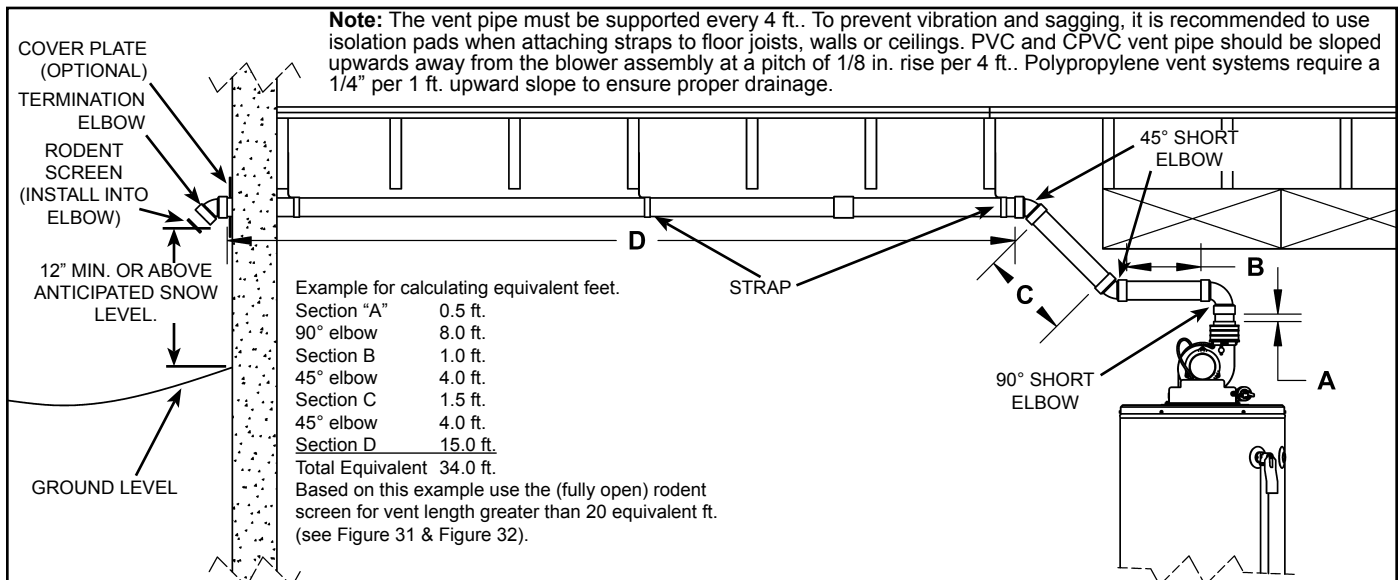
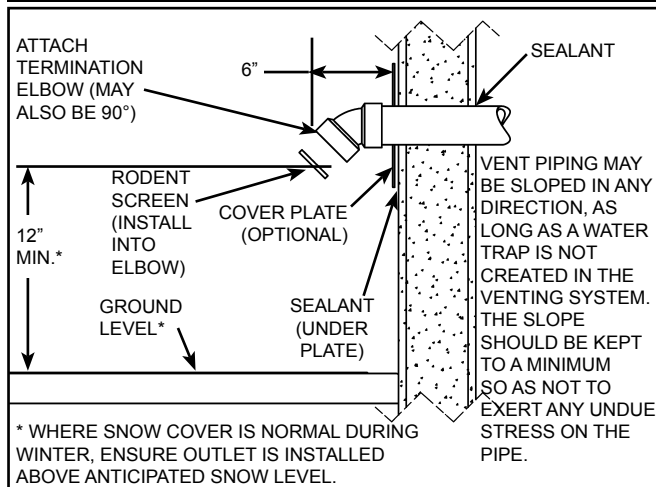
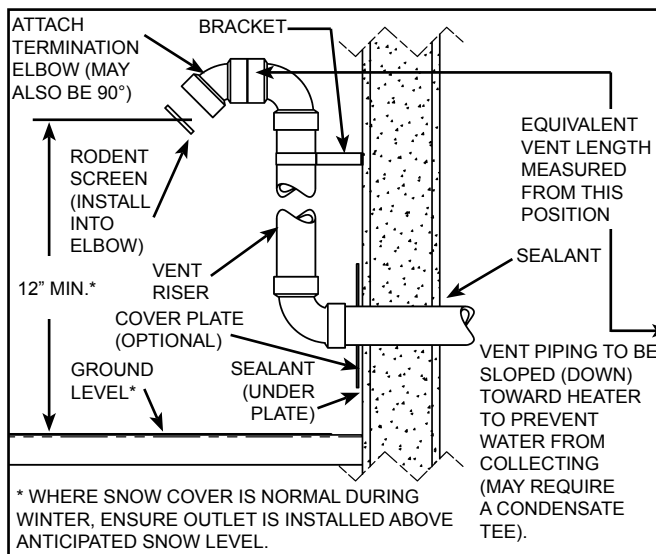
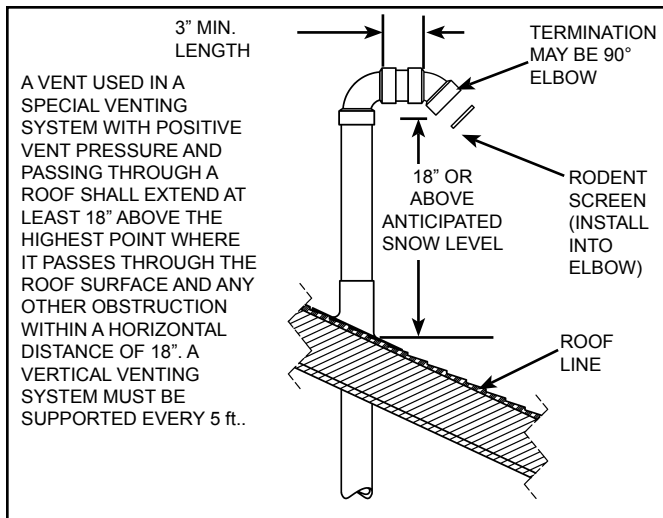

Figure 33.
Figure 34.
Figure 35.
Figure 36.
This heater is designed to exhaust the products of combustion (flue gases) to the outdoors using a sealed piping system. Table 2 lists the allowable vent materials and sizing information. Figure 33 shows the general venting layout while Figure 37 thru Figure 41 show various end termination details and clearances. Connection of the venting piping to the blower is shown in Figure 37 thru Figure 41.
- Refer to Figure 33 and Table 2 for vent pipe materials and sizing. Examples of the vent terminations are shown in Figure 34 & Figure 35. If the installation requires a vent riser, suitable drainage must be provided to ensure condensation does not accumulate. Termination through a roof is shown Figure 36.
Installed in the vent termination elbow, the vent screen is required to keep foreign objects, rodents and small birds from entering the venting system. These screens have been sized to ensure maximum energy efficiency of the vent system based on the "equivalent length" of the vent piping. **CHOOSE ONLY the ONE SCREEN THAT MATCHES YOUR VENTING CONFIGURATION** (see Figure 31 & Figure 32). How to determine the "equivalent length" is shown in Figure 33 and in Table 2.
5. Calculate "Equivalent Vent Length" before starting. Do not exceed the values shown in Table 2. An example of how this length is determined is shown in Figure 33. The value from your calculations should also be used to determine which rodent screen to install into the vent termination elbow.
9. Insert the vent piping through this hole and secure into position. Connect the vent pipe to the end termination elbow as shown in Figure 34 thru Figure 36.